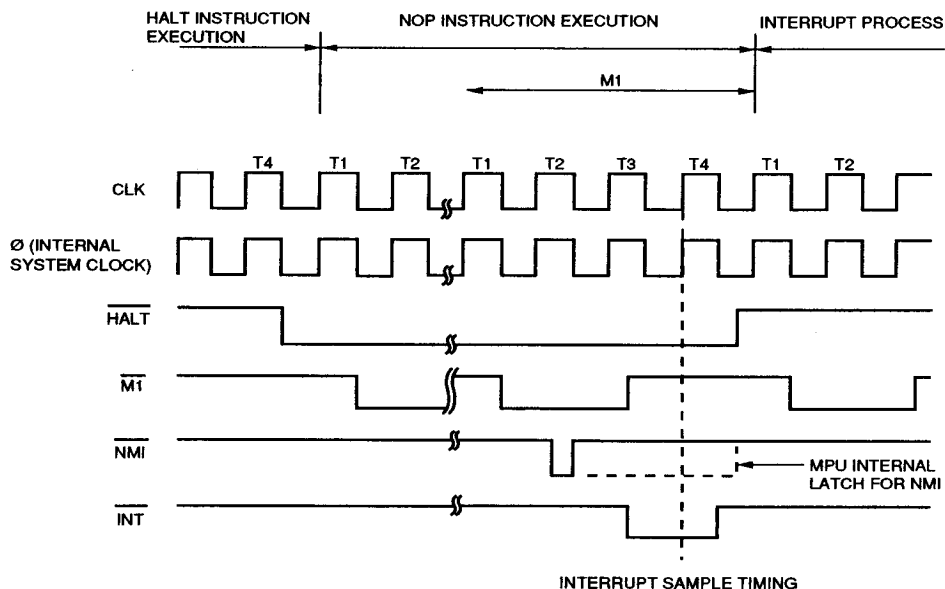

Figure 10. Halt Release Operation Timing by Interrupt Request Signal in RUN Mode
**RUN Mode** (MS1, MS2=1). The halt release operation by acceptance of interrupt request in RUN Mode is shown in Figure 10.